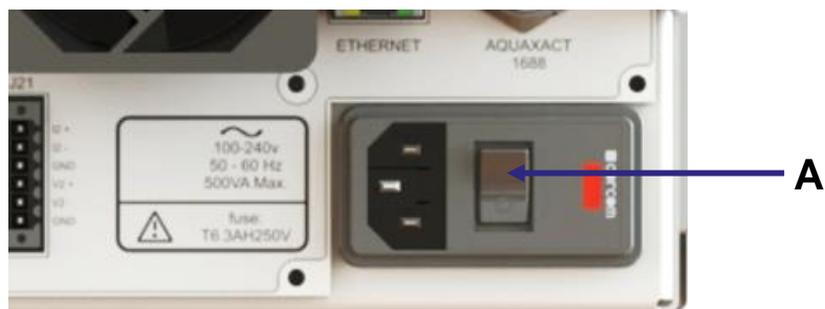

Figure 3-7: On/Off switch on the rear of the analyzer, (A) points to the Power Switch “I” for ON position.
- 2.** Press **I** on the On/Off switch on the rear of the analyser (Figure 3-7 A) to power on the analyser.